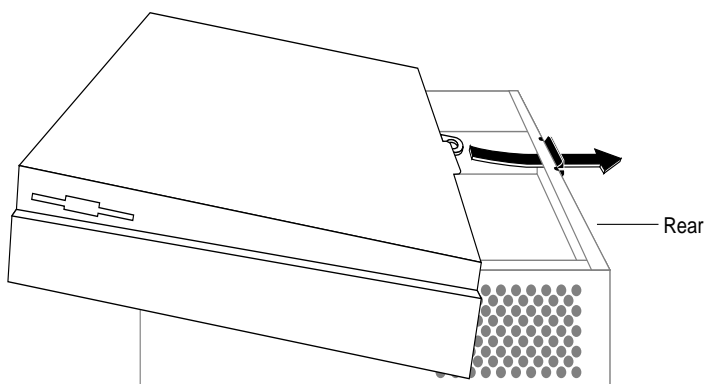

Figure 3-11 Replacing the Top Cover on the Challenge S Server
1. Facing the front of the system, lower the cover about one inch from its fully closed position, as shown in Figure 3-11.